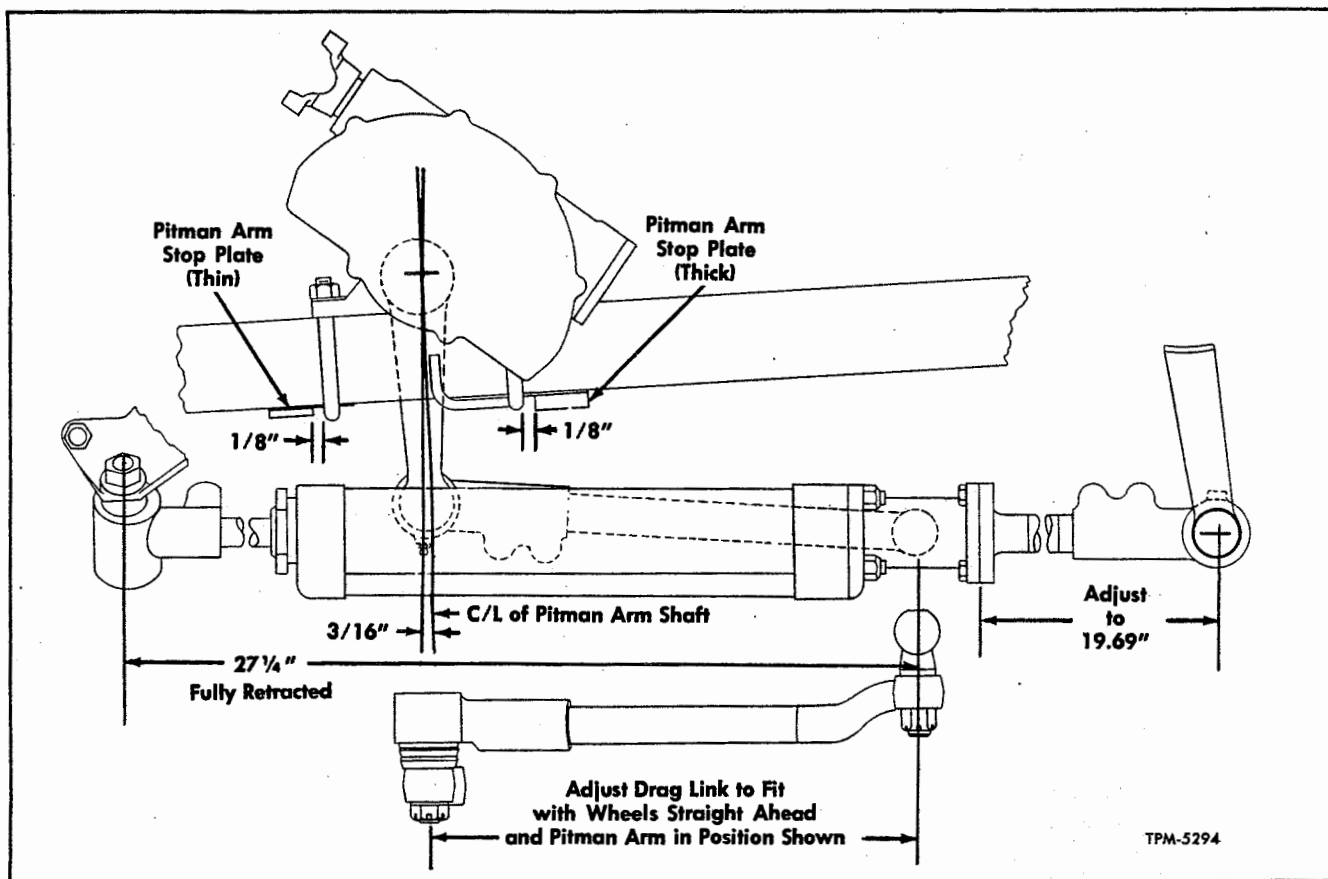

Figure 14—Power Steering Booster Cylinder Installation
2. Position steering gear Pitman arm so that the ball stud hole is 3/16" to left of center of Pitman arm shaft (fig. 14).
3. Check length of cylinder extension and end assembly, measuring from center of end socket ball stud to flange of extension (fig. 14). Distance should measure 19.69". Adjust if necessary.
be positioned straight ahead. If steering gear Pitman arm is correctly positioned on shaft, centerline of hole at drag link end of arm is 3/16-inch further from centerline of coach than centerline of hole at opposite end of arm is (fig. 14). If pitman arm is incorrectly positioned on lever shaft, remove arm from shaft and reposition as previously directed.